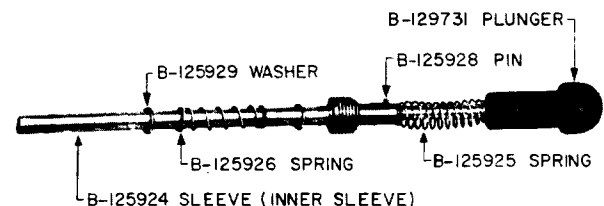

Fig. 2 - KS-16492, L2 Wire Unwrapping Tool
1.02 This section is reissued to revise the title of Fig. 2 and to revise the example for ordering a replacement part.
3.03 Other Parts: Fig. 2